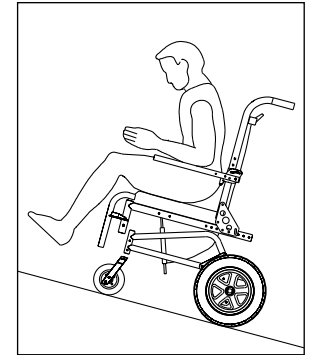

Fig. 1
4. Lean or press your body uphill. This will help adjust for a change in the center of balance caused by the slope. (Fig. 1)